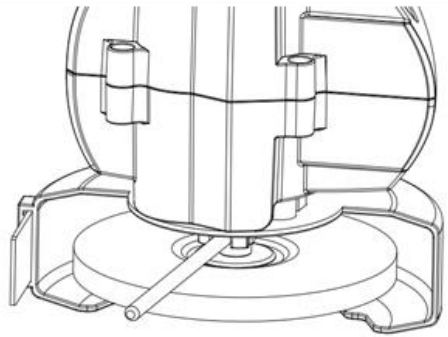

FIG.5
- The shaft must be fixed in order to fasten the brush. To do so, insert the pin (Fig.5) into the recess on the shaft and hold with one hand.